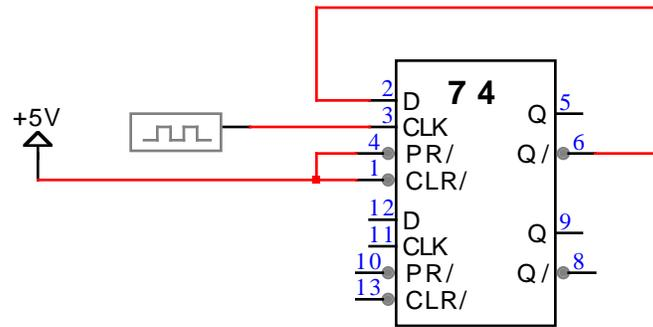

Figure 2. Frequency Divider Circuit
1. Using a 74LS74 IC package, set up the circuit shown in Figure 2. (The power and ground connections are not shown. You should check the data sheet to determine which pins are power and ground pins if you don't know.)